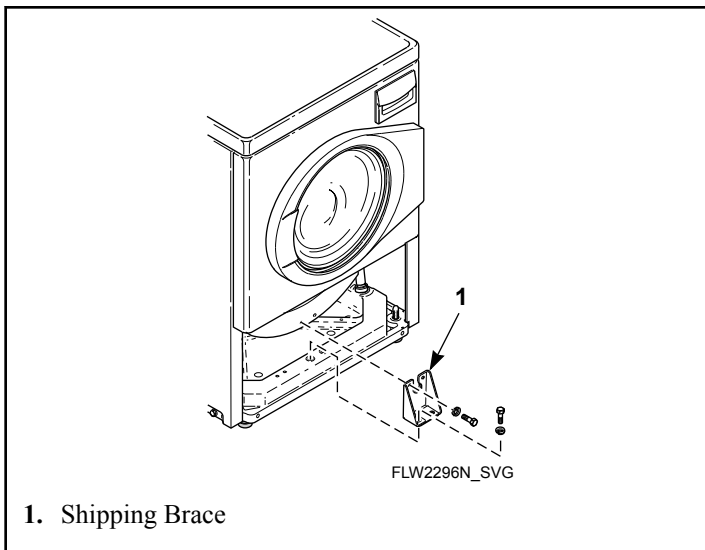

Figure 52
4. Attach shipping brace to weight and base using four bolts and washers. Refer to *Figure 52*.